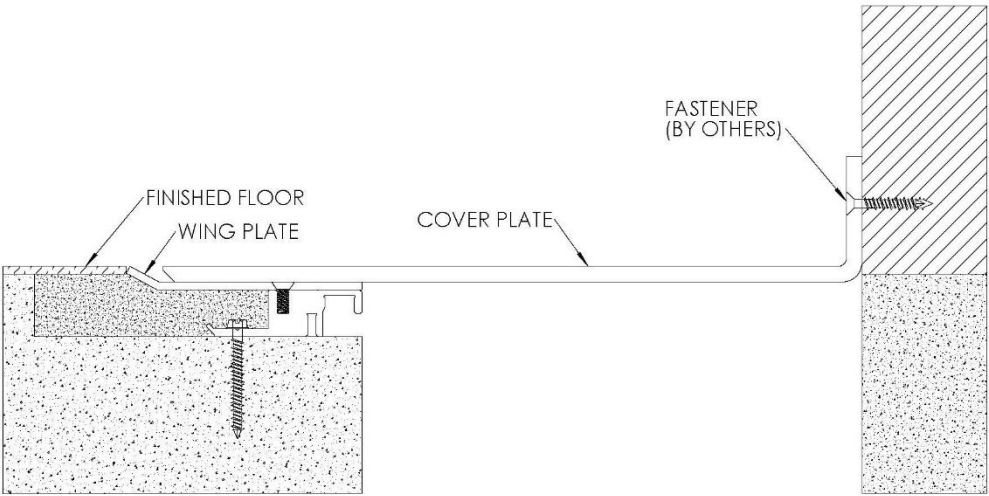

FIGURE 6
- 6. Position cover plate against wall as shown, making sure the top of its horizontal face is level when set on the wing plate. Attach plate to wall using appropriate 3/16" fasteners for the wall type, 18" o.c. *Note: Wall fasteners are not provided. See Figure 6*